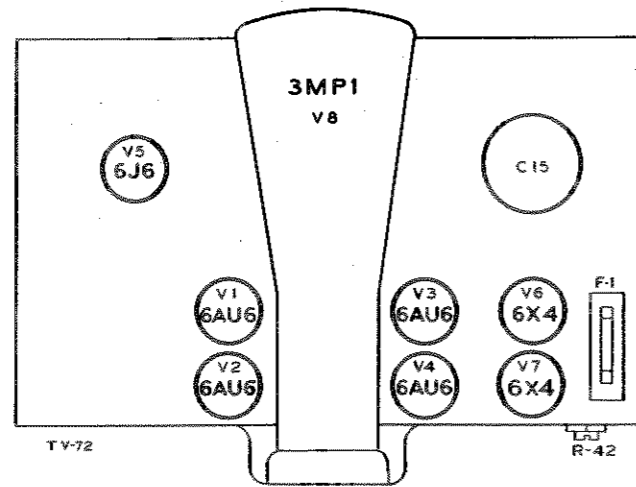

Figure 15—Tube and Adjustment Locations
7. The screw-driver adjustment (R-42) should be made so that, as the FOCUS control is varied, the spot will be round at all settings. See Figure 15 for the location of R-42.